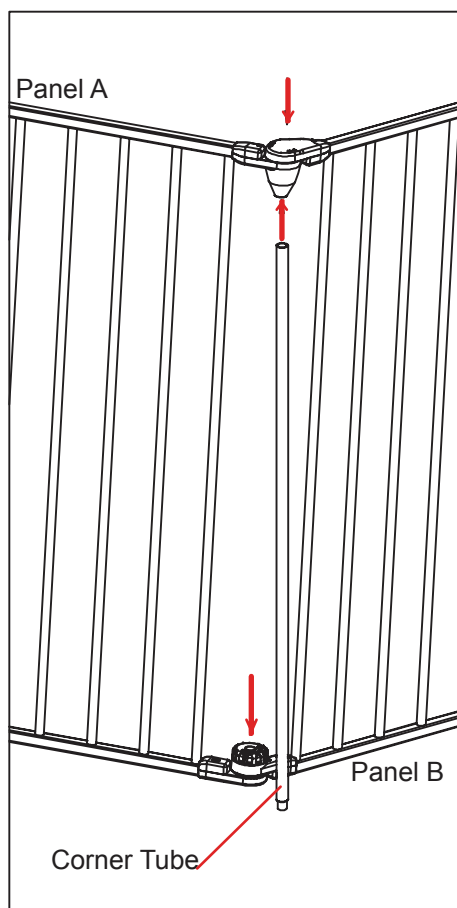
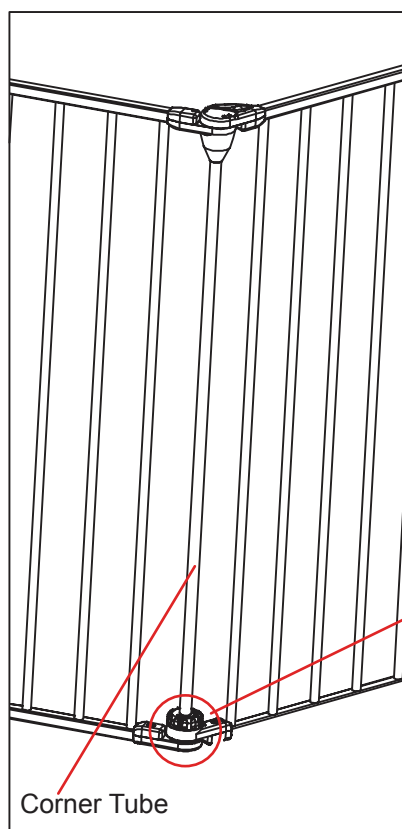

Figure 1
Figure 2
- Your Tranzforma comes with all 6 panels pre-assembled to convert you Tranzforma into a play yard, unfold the panels and join the two ends as per **Figure1** and then lock in the desired configuration eg:hexagon or rectangle.
- Align the open ends of the barrier and insert into each other, panel(**B**) fits into panel(**A**). Insert the corner tube into the top hole of panel(**A**), compress the spring in the top hole with the corner tube so the corner tube can slide into the base hole of panel(**B**), as per **Figure1 & Figure2**.